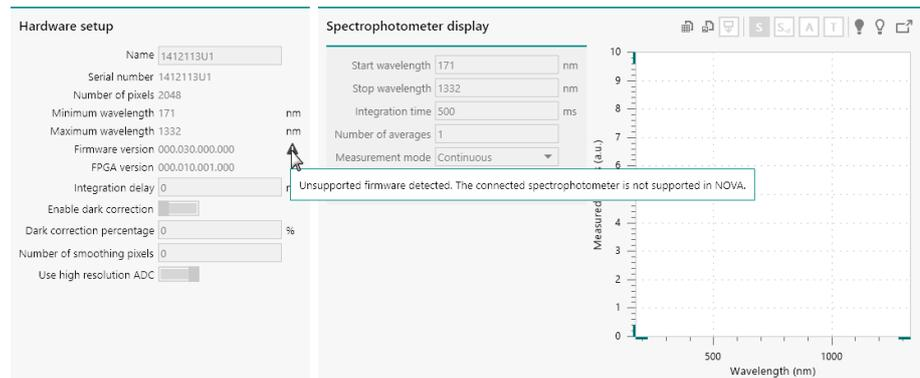

Figure 156 An error is shown when an unsupported firmware is detected
- Other versions:** all other firmware versions are not supported in NOVA. When an unsupported firmware is detected, a warning error symbol is shown in the **Hardware setup** panel, with an indication that an unsupported firmware is detected, as shown in Figure 156. In this case, the spectrophotometer cannot be used.